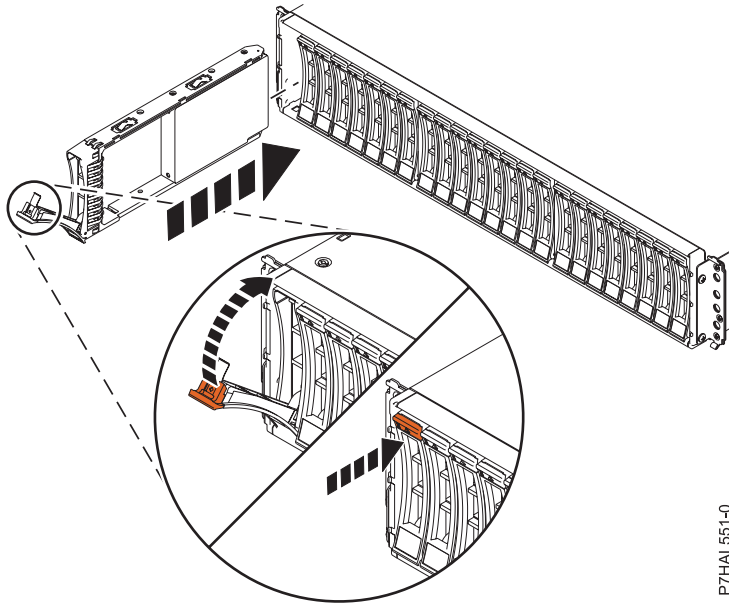

Figure 2. Installing the disk drive in the 5887 disk drive enclosure
1. With the handle in the unlocked position, see Figure 2 on page 9, support the bottom of the drive as you align it with the guide rails in the expansion unit.